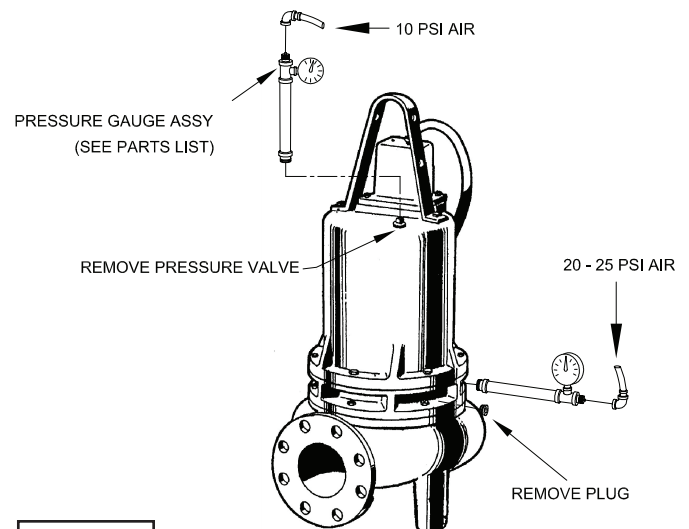

FIGURE 2
Motor Housing - Before checking the pump for leaks around the shaft seal, square rings, and cord inlet, the oil level should be full as described in section F-1.3. Remove pressure valve (5) from motor housing (2). Apply pipe sealant to pressure gauge assembly and tighten into pressure valve hole (See Fig. 2). Pressurize motor housing to 10 P.S.I. Use a soap solution around the sealed areas and inspect joints for “air bubbles”. If, after five minutes, the pressure is still holding constant, and no “bubbles” are observed, slowly bleed the pressure and remove the gauge assembly. Replace the Pressure valve using a sealant. If the pressure does not hold, then the leak must be located.